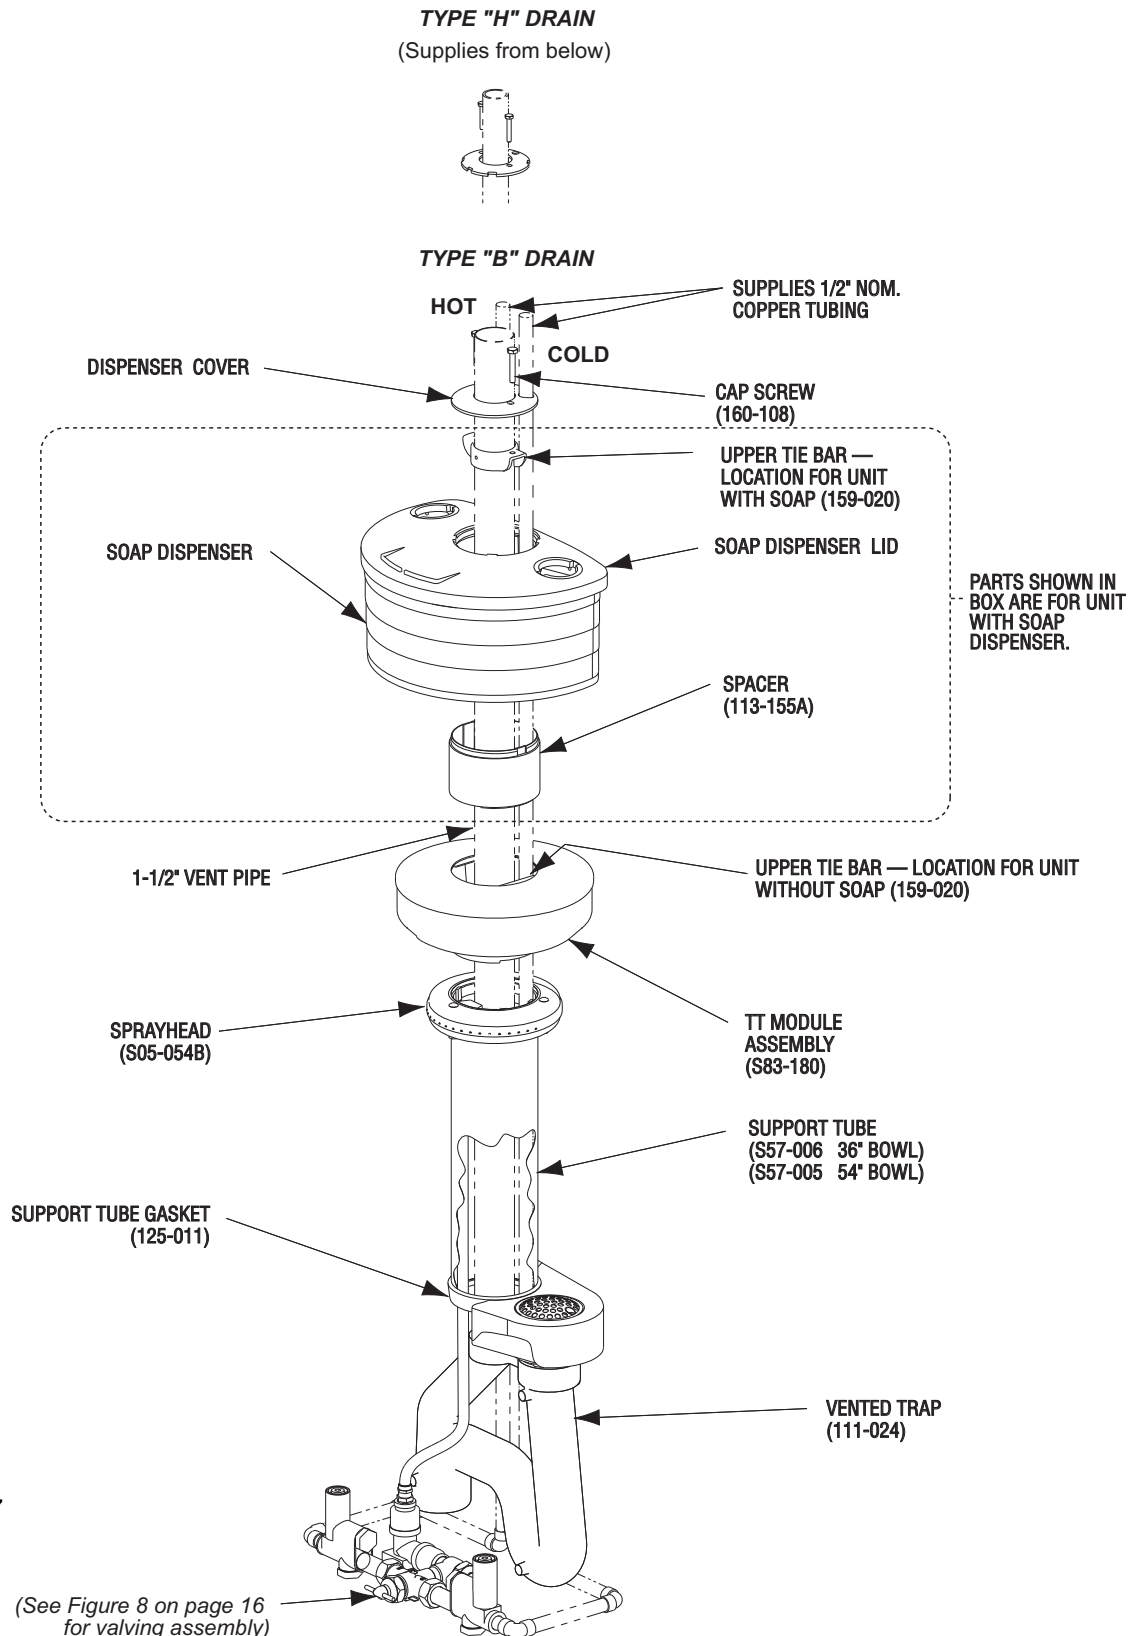

Figure 7
1. Install hemmed end (not sharp end) of support tube (welded seam toward wall) with gasket onto bowl as shown in Figure 7 on Page 15.
3. Place sprayhead with 1/2" tubing onto support tube as shown in Figure 7. Run tubing down through support tube. *Make sure spray holes point away from the wall.*
- 9a. **FOR UNITS WITH SOAP OPTION:** Place the spacer, soap dispenser and cover in position on top of Touch Time module (see Figure 7). Slide tie bar over 1-1/2" vent pipe 1/2" below top of soap dispenser lid and secure with set screws (tie bar must be parallel to wall). Slide the dispenser cover over 1-1/2" vent pipe and secure with 2 screws included with tie bar.